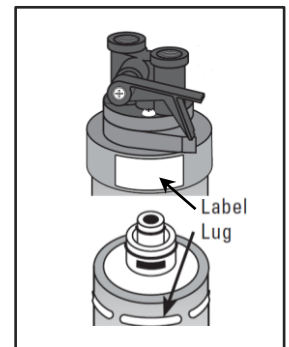

Fig. 10
2. Align one of the extruded lugs at the top of the **(A)** cartridge, with the label on the **(B)** Quantum Head. **(Fig. 10)**